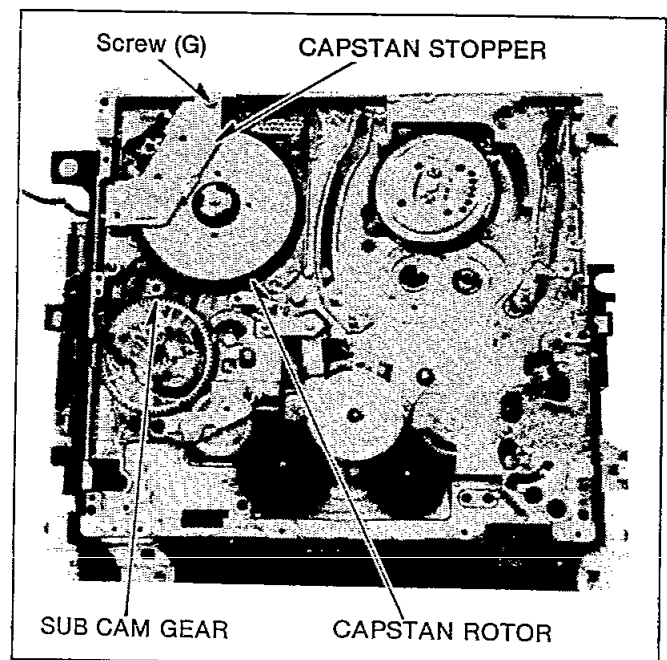

Fig. A8
- 1) Remove the screw (G) and remove the CAPSTAN STOPPER as shown in Fig. A8.